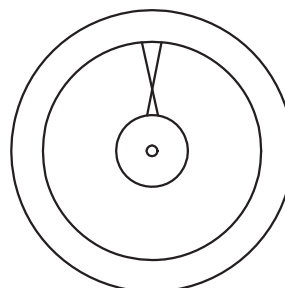

Fig. 17-9
3. Draw two crossing lines similar to the ones in Fig. 17-9. Use the **Nearest** object snap to begin and end the lines precisely on the appropriate circles.